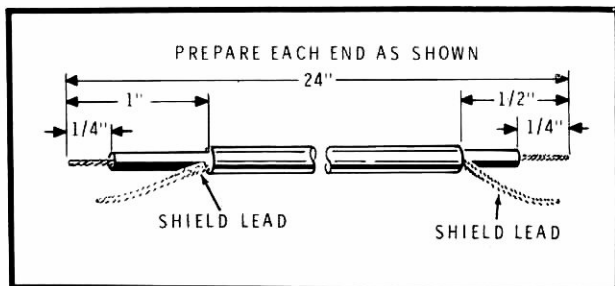

Figure 3-4
- () Prepare a 24" shielded test cable as shown in Figures 3-4 and 3-5. NOTE: Install the plug temporarily, as you may need to remove it and reinstall it later.